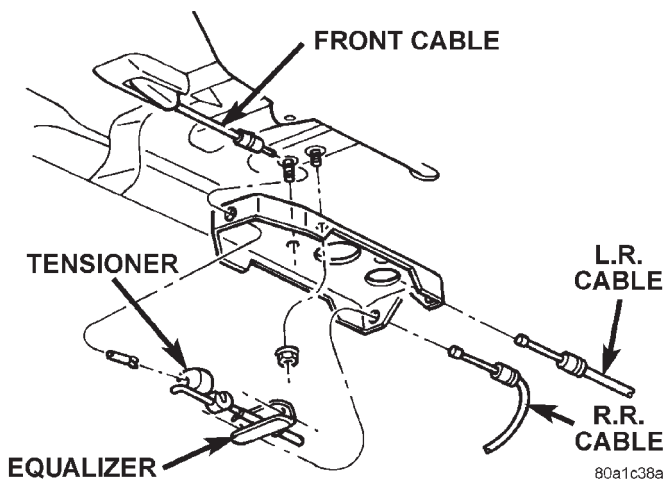
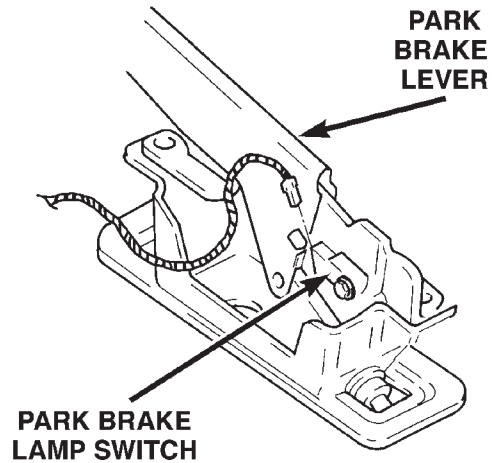

Fig. 36 Parking Brake Cable Attachment
Fig. 37 Parking Brake Lamp Switch
- (1) Release parking brakes.
- (2) Raise vehicle on hoist.
- (3) Remove front cable adjusting nut and disengage cable tensioner from equalizer. Then remove front cable from tensioner (Fig. 36).
- (4) Lower vehicle.
- (5) Remove lever cover or center console if equipped. Refer to Group 23 Body for procedures.
- (6) Disconnect parking brake switch wiring connectors (Fig. 37).
- (1) Raise vehicle and loosen equalizer nuts until rear cables are slack.
- (2) Disengage cable from equalizer and remove cable (Fig. 36).